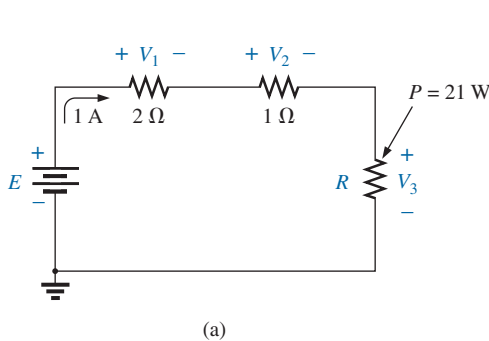

**FIG. 5.96**
12. For the circuit in Fig. 5.96, constructed of standard value resistors: